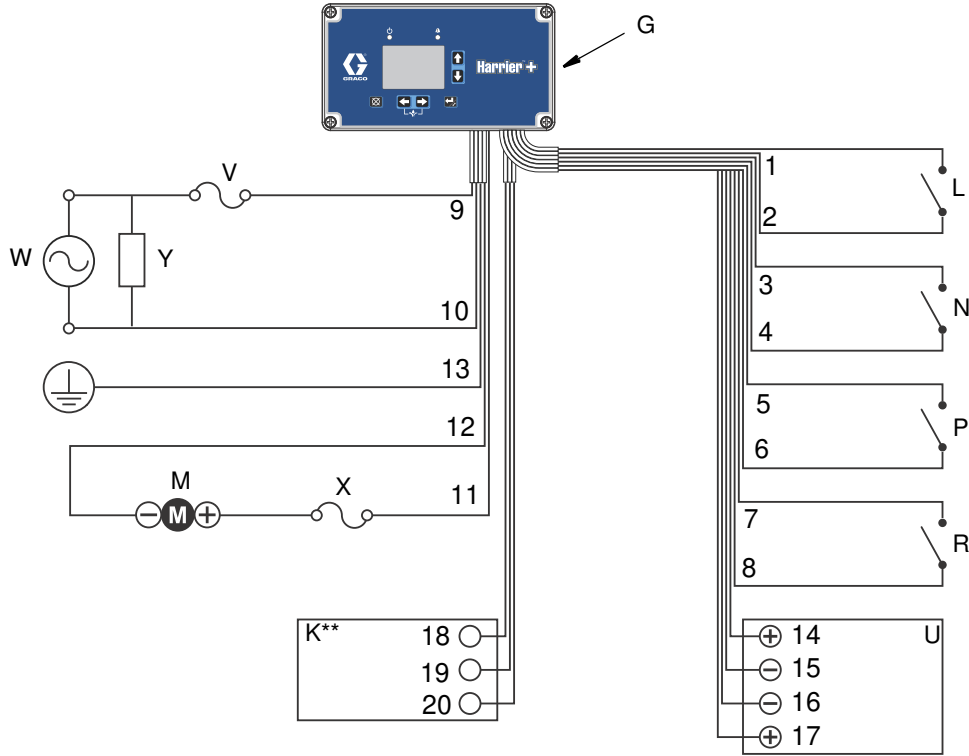

FIG. 3 Typical 120 VAC Installation
FIG. 3 is an example of 120 VAC installation. Your installation may differ from what is shown here. The Harrier+ controller (G), with wiring, is supplied by Graco. All other components are supplied by the customer. Contact your Graco distributor for assistance in planning a system to suit your needs.